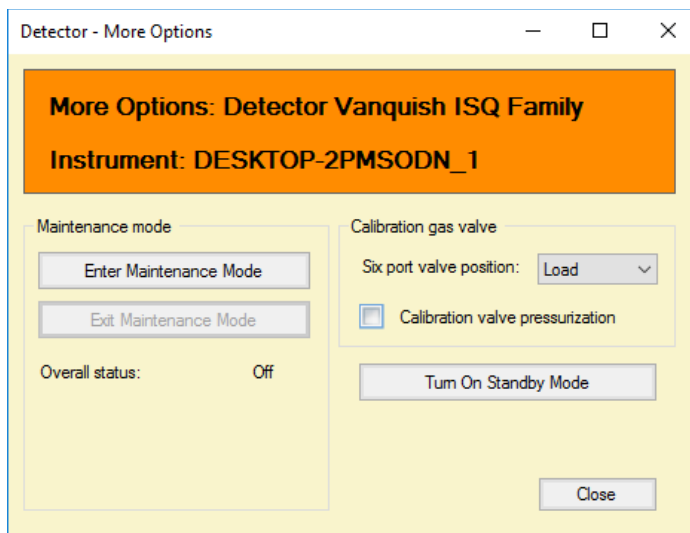

Figure 58: Disabling the calibration valve pressurization
- 5) Uncheck the **Calibration Valve Pressurization** box. See Figure 58.